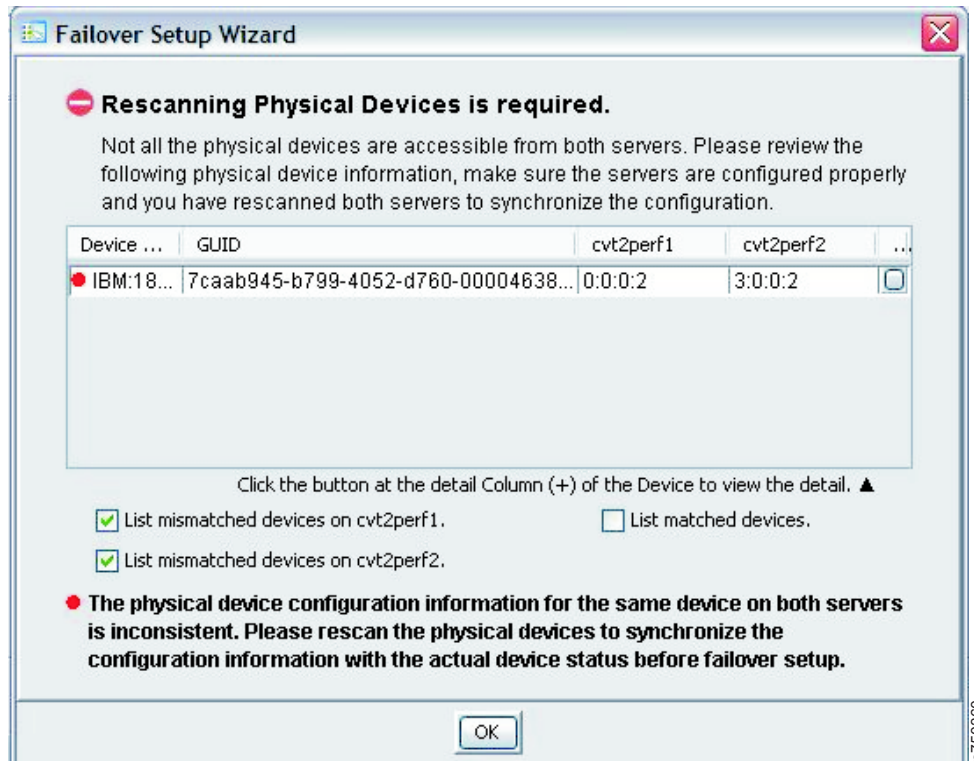

Figure 55. Rescanning Physical Devices is required window
- If the Rescanning Physical Devices is required window (Figure 55 on page 73) opens, proceed to step 7 on page 73
7. In the Rescanning Physical Devices is required window (Figure 55), click **OK**.